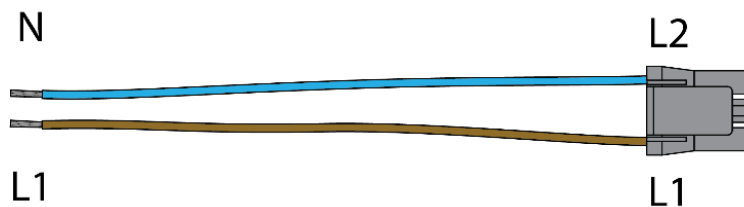

Figure 38: AC Power Harness
5. At the Powerwall, strip the ends of the AC and attach them to the corresponding leads on the AC power harness (Figure 38) according to the following table: